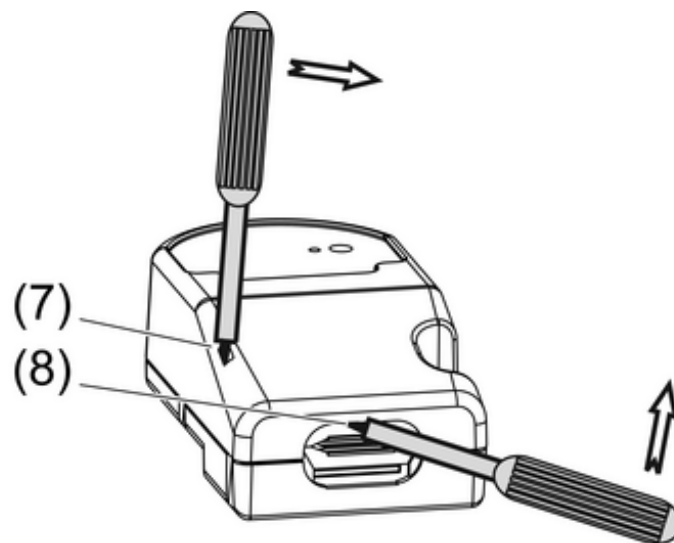

Figure 3: Open the housing
- Insert a screwdriver into the opening (7) and lever the housing lid outwards slightly (Figure 3).
- Then push the screwdriver between the strain relief and the housing cover (8) and lever it upwards.
- i** An engaged adapter (3) can be levered off with a screwdriver. To do this, apply the screwdriver in the area of the lock.